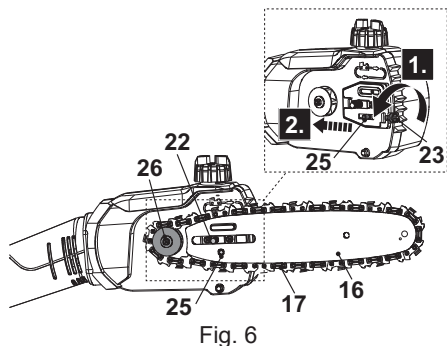

Fig. 6
- Align the saw chain (17) and the guide bar (16) assembly with the drive sprocket (26) and the mounting bolt (22). Lay the saw chain (17) around the drive sprocket (26) and then lower the guide bar (16) to install it to the mounting bolt (22) (Fig. 6).
- Make sure the tension pin (25) is inserted into the lower hole on the guide bar (16). Screwing the tension screw (23) with the multi tool (28) in or out to adjust the position of the tension pin (25) if necessary.